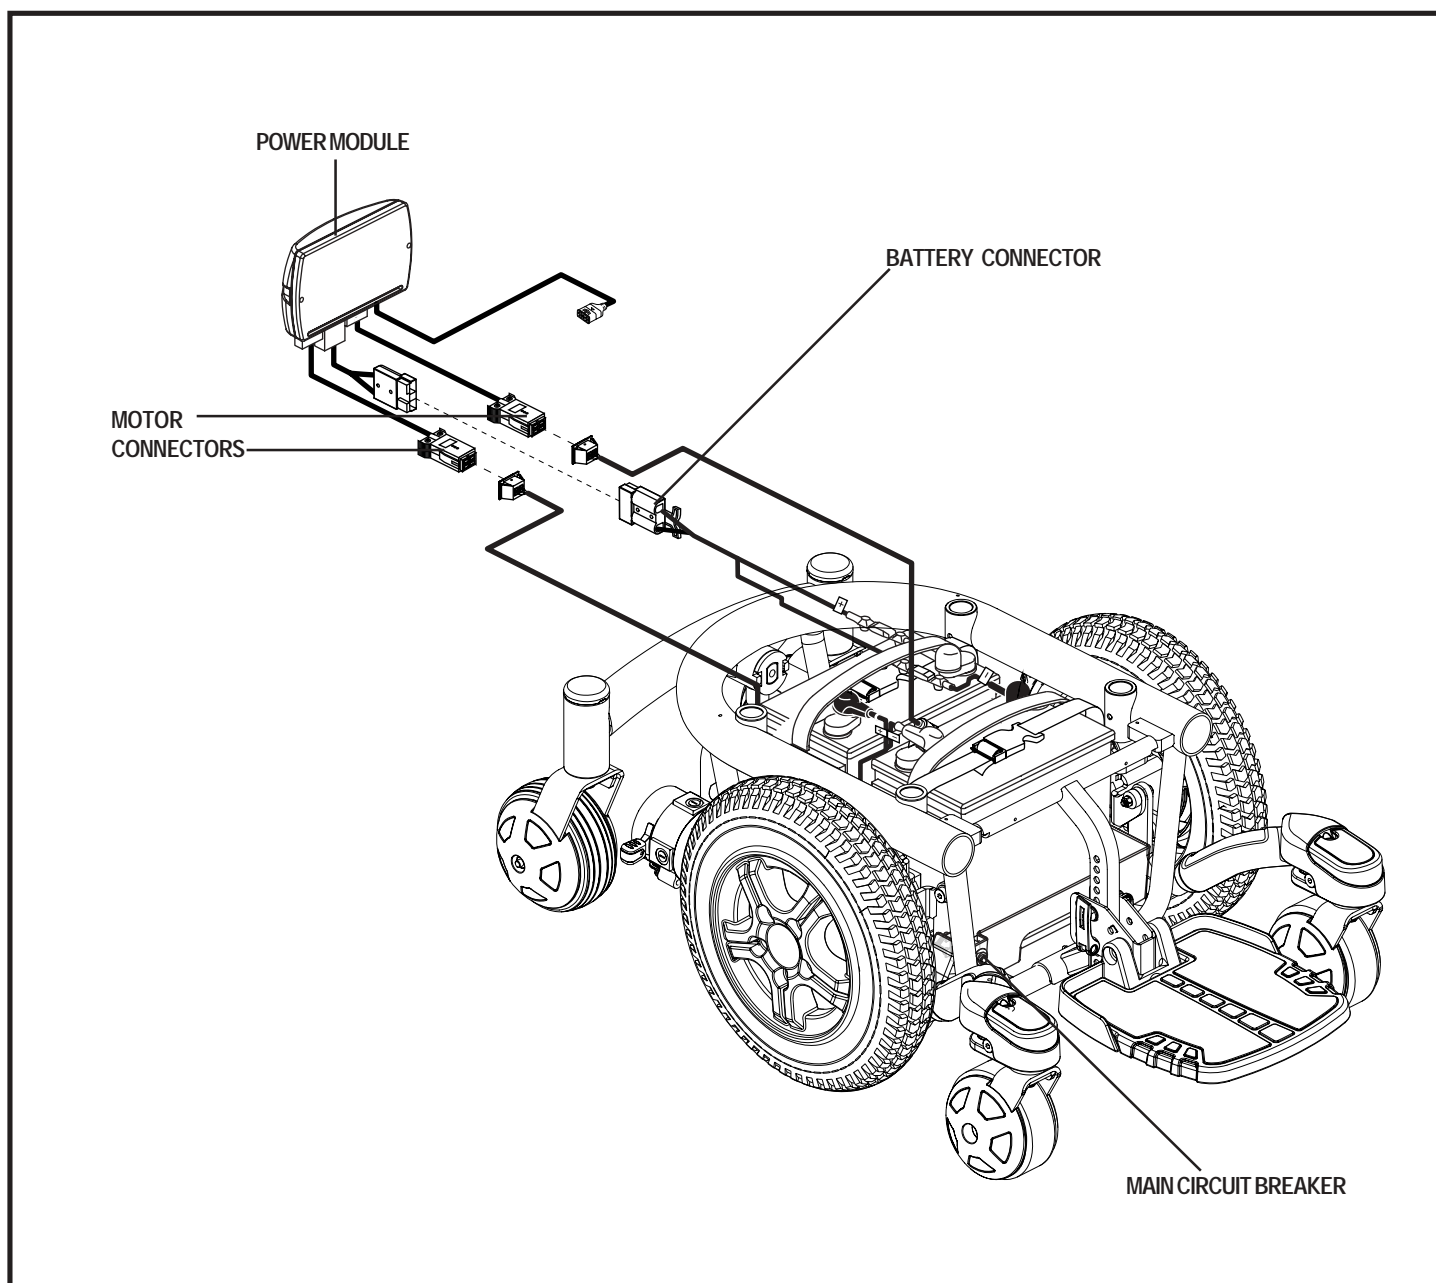

Figure 7. Electrical Components (Shown with Onboard Charging System)
The electrical components are located inside the power base. The ammeter and the charger power cord receptacle for the optional onboard charger are located on the right side of the power base. The main circuit breaker is located on the front of the battery tray. The controller connector(s) are located inside the power base. See figure 7.
7. Plug the controller connector(s) into the power base. See figure 7.
3. Disconnect the controller connector(s) from the power base. See figure 7.